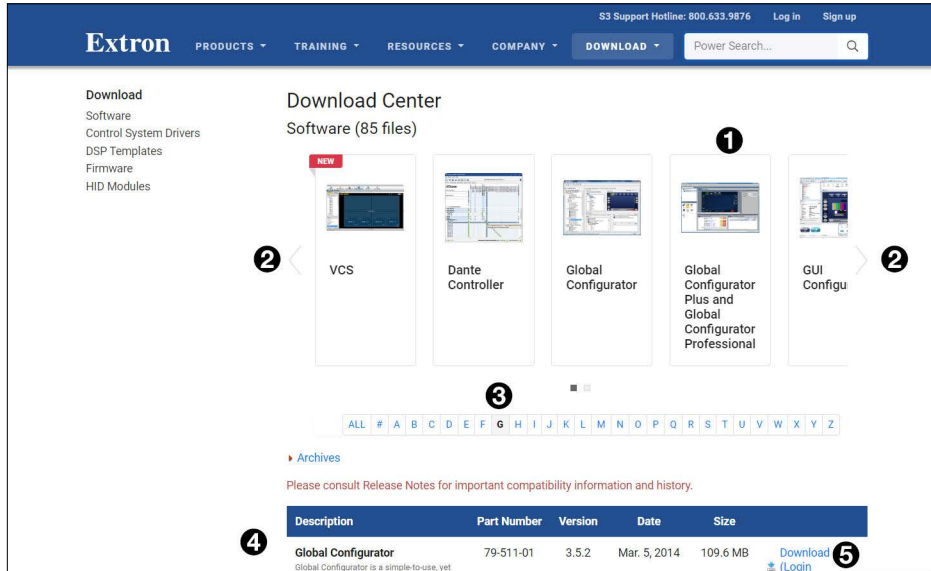

Figure 4. Download Center Software Page
4. If the software appears at the top of the page, click on the product (see figure 4, ①), which takes you to the product page on the Extron web site. This provides further information about the product. Click **Download** and follow the on-screen instructions to download the software.
5. If you do not see the product, click the < or > arrows (②) to see other options.
6. If the product is not listed in the top section of the page, click the initial letter of the software product name (③). Software products with that initial letter are listed at the bottom of the page (④).
7. Click **Download** (⑤) and follow the on-screen instructions to download the software.